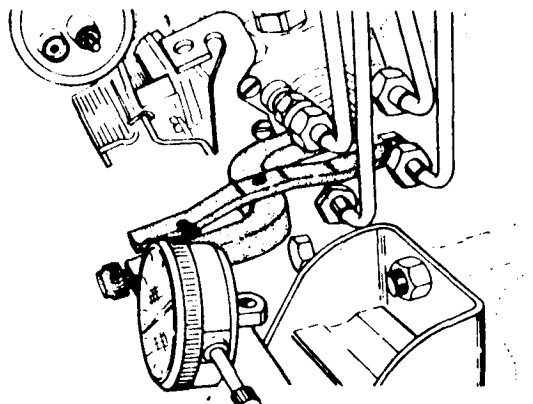

FIGURE 1
2. Install the Static Timing Gauge Adapter, see Figure 1, tight against the end of the fuel injection pump.